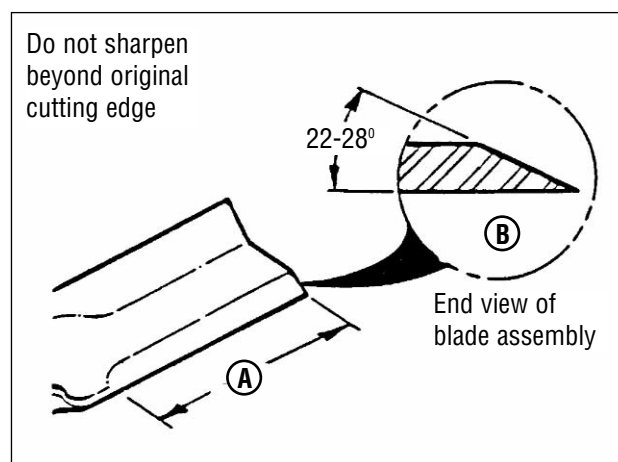

Figure 17: Sharpening the mower blade
4. Sharpen the blade on a grinding wheel at an angle of 22 to 28 degrees (**B, Figure 17**). DO NOT sharpen the blade beyond the original cutting edge (**A**).